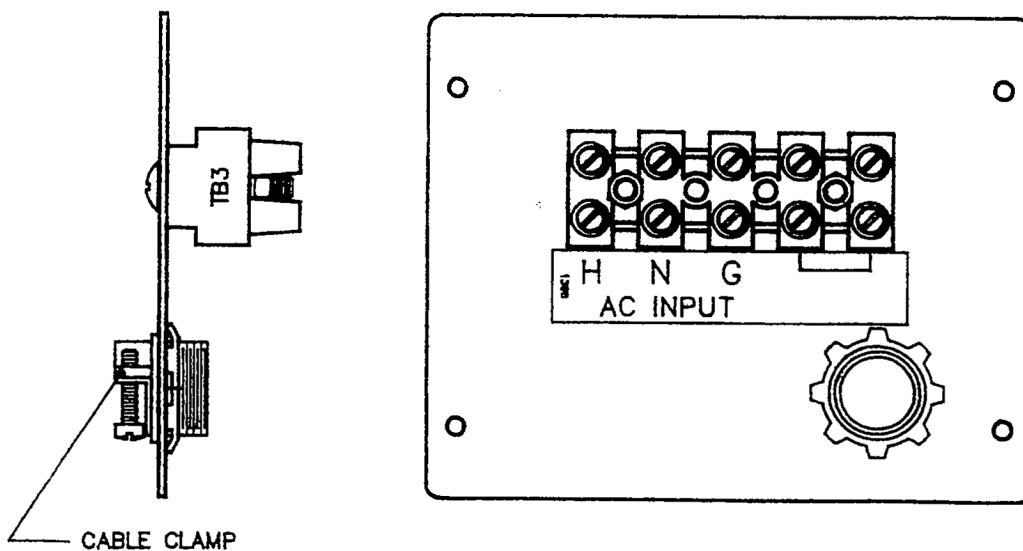

FIGURE 2-3 AC INPUT POWER TERMINAL BLOCK TB3
Remove the four screws from the small panel located on the right side of the TBC Battery Charger rear panel. Insert the AC power line through the hole in the panel; tighten the cable clamp and connect the line, neutral and ground wires to their respective terminals on the Terminal Block (see Figure 2-3). Fasten the panel in place on the TBC Battery Charger rear panel
- a) Terminal Block 3 on Chassis Assembly A2 has three terminals , Ground, Neutral and High. The Ground terminal is a chassis ground, and is not the logic ground, nor the Common found on PC Board 1 and pin 10 of Terminal Blocks 1 and 2 (see Figure 2-3).